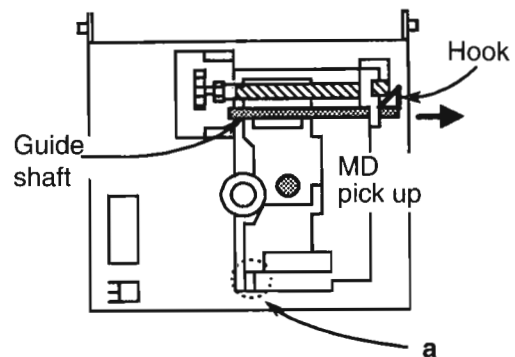

Fig.8
■ Reassembly the MD pick up (see Fig.8)